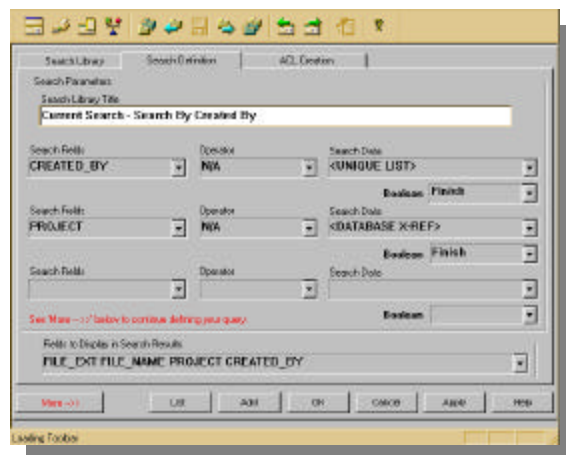

Figure 6
- System Administrators and experienced users can build and “publish” pre-defined searches, using AutoEDMS’ *Custom Search Library* (Figure 6). The Custom